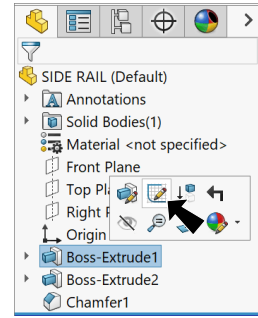

Fig. 29
Step 1. Click **Boss-Extrude1** in the Feature Manager and **Edit Sketch** in the content toolbar, **Fig. 29**.